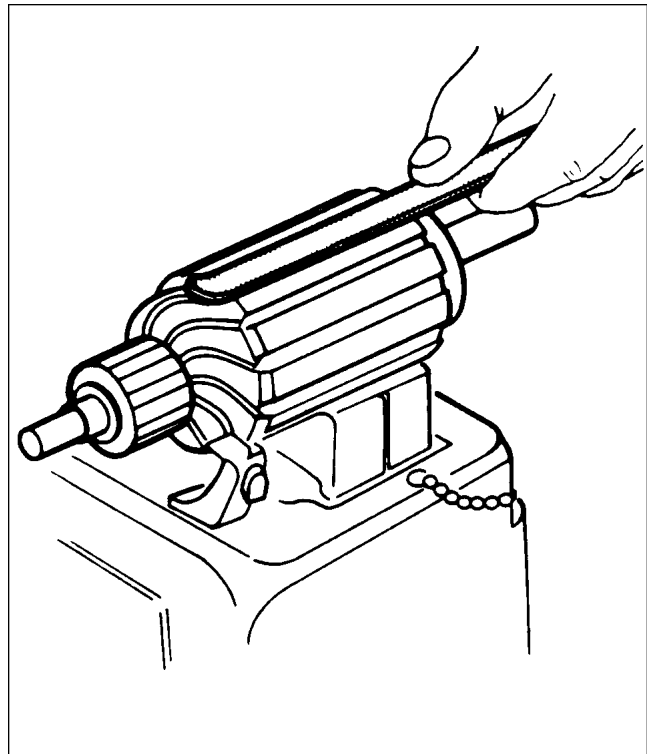

Figure 80-3. Testing Motor Armature for Shorts
3. To test for shorted armature coils, use a growler. (Refer to figure 80-3.) Armature is placed on growler and slowly rotated by hand while a steel strip is held over the core so that it passes over each armature core slot. If a coil is shorted, steel strip will vibrate.